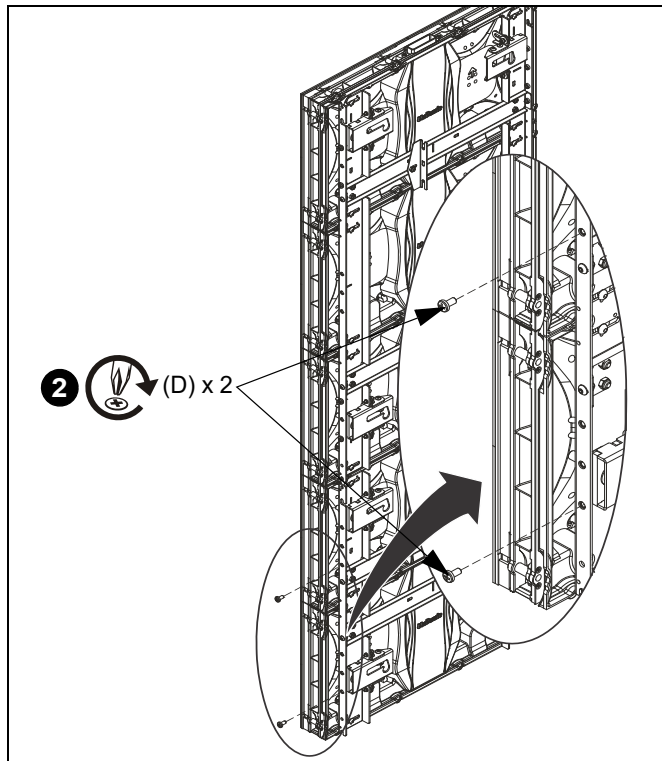

Figure 2
2. Loosely install the 1/4-20 x 1/2" Phillips pan head screws (D) for each side cover into the side of the mount. (See Figure 2)